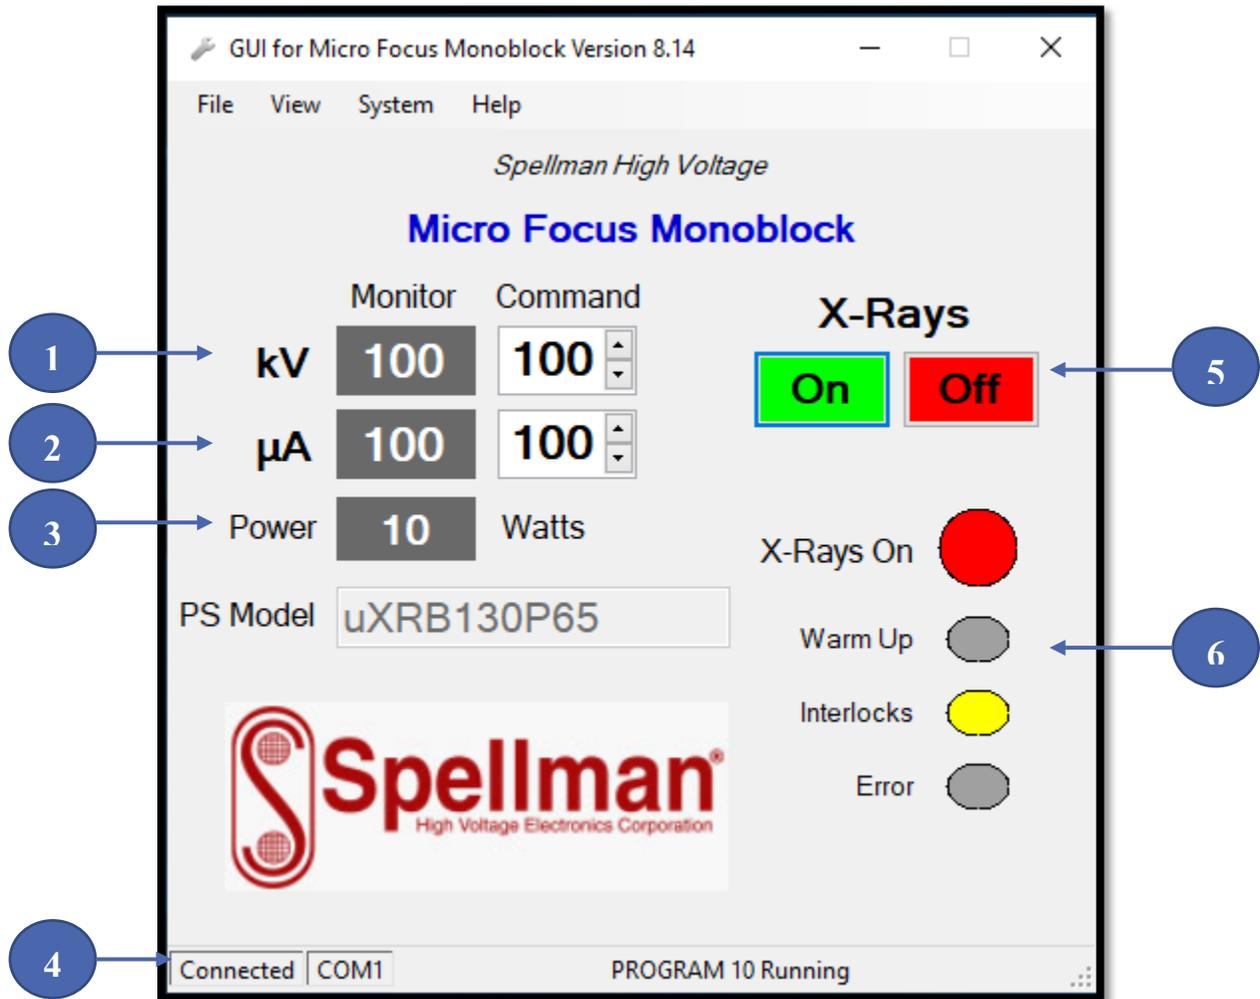

Figure 9: Screen Layout
6.2.1 kV Section (Item 1, Figure 9)
6.2.2 uA Section (Item 2, Figure 9)
6.2.3 Power Reading (Item 3, Figure 9)
6.2.4 Status Bar (Item 4, Figure 9)
6.2.5 X-Rays On / Off (Item 5, Figure 9)
6.2.6 Indicator Lights (Item 6, Figure 9)